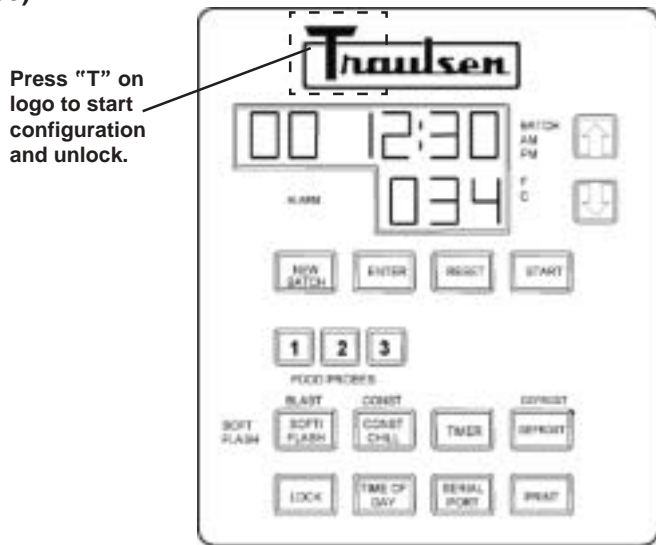

Fig. 34
STEP 1: Start configuration by pressing the "T" on the Traulsen logo (see figure 34). The display will show U1A, which is the maintenance air temperature, 34-38°F is typical during operation. Press the "T" again, now U1E1 is displayed. This displays the current maintenance evaporator coil temperature. Press again, notice U1E2 is displayed. This displays current chill evaporator coil temperature. Press again, and notice the "F" for Fahrenheit begins to flash next to the display screen. You have now accessed the first set function. Using the UP/DOWN arrows, you can change the settings for Fahrenheit to Celsius (F° to C°, see figure 35).